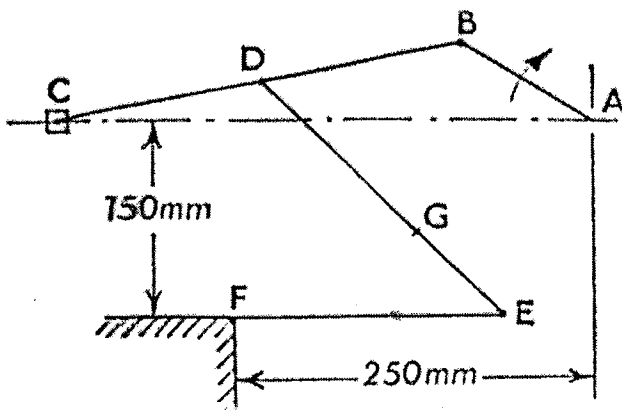

Figure 01
1. In the mechanism shown in Figure 01 below, the link AB rotates with a uniform angular velocity of 30 rads^{-1} . Determine the velocity of point G, if $AB= 100 \text{ mm}$, $BC= 300 \text{ mm}$, $BD= 150 \text{ mm}$, $DE= 250 \text{ mm}$, $EF= 200 \text{ mm}$, $DG= 167 \text{ mm}$, and angle $CAB= 30^\circ$. (20 mark)